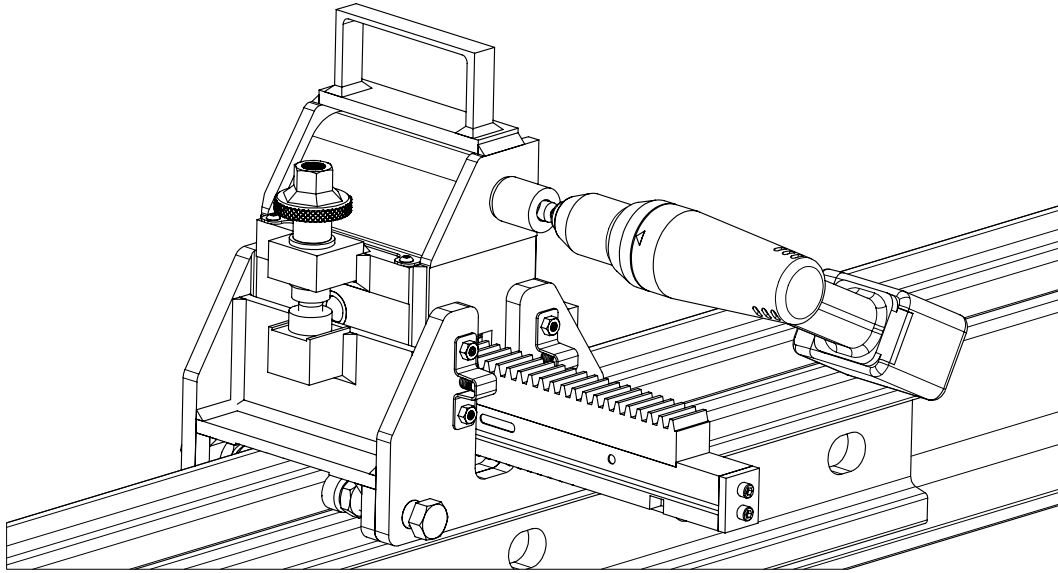
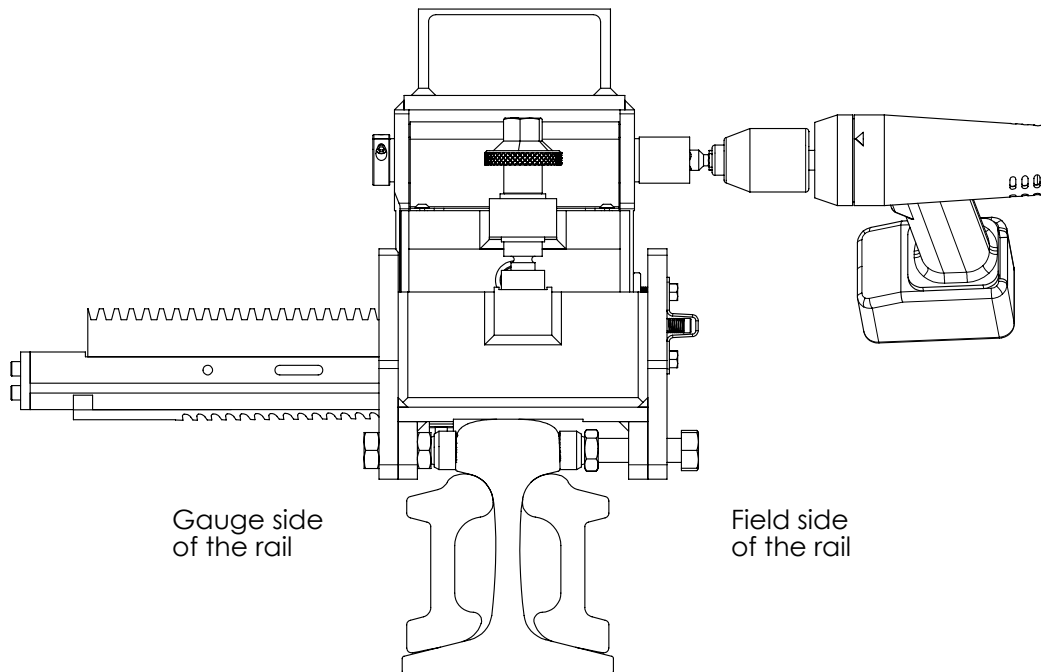

Figure 21: Move the gear rack to beginning of cut position
Figure 22: Beginning of cut position
- a. Turn the worm drive shaft clockwise (**Figure 21**) until the gear rack has moved to the beginning of cut position (**Figure 22**). Care should be taken that the rack gently reaches its end of travel position, as the drill will twist abruptly.